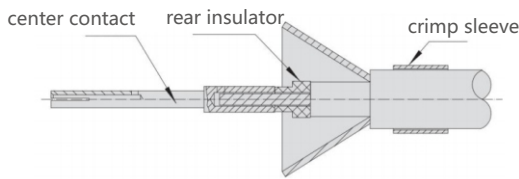

Figure 1.4
- ④ Assemble the center contact onto the cable's central conductor as shown in Figure 1.4. The cable's central conductor should be visible through the observation hole at the tail of the center contact. Use crimping tool M22520/2-01 (set to position 5) and locator M22520/2-35 for crimping.